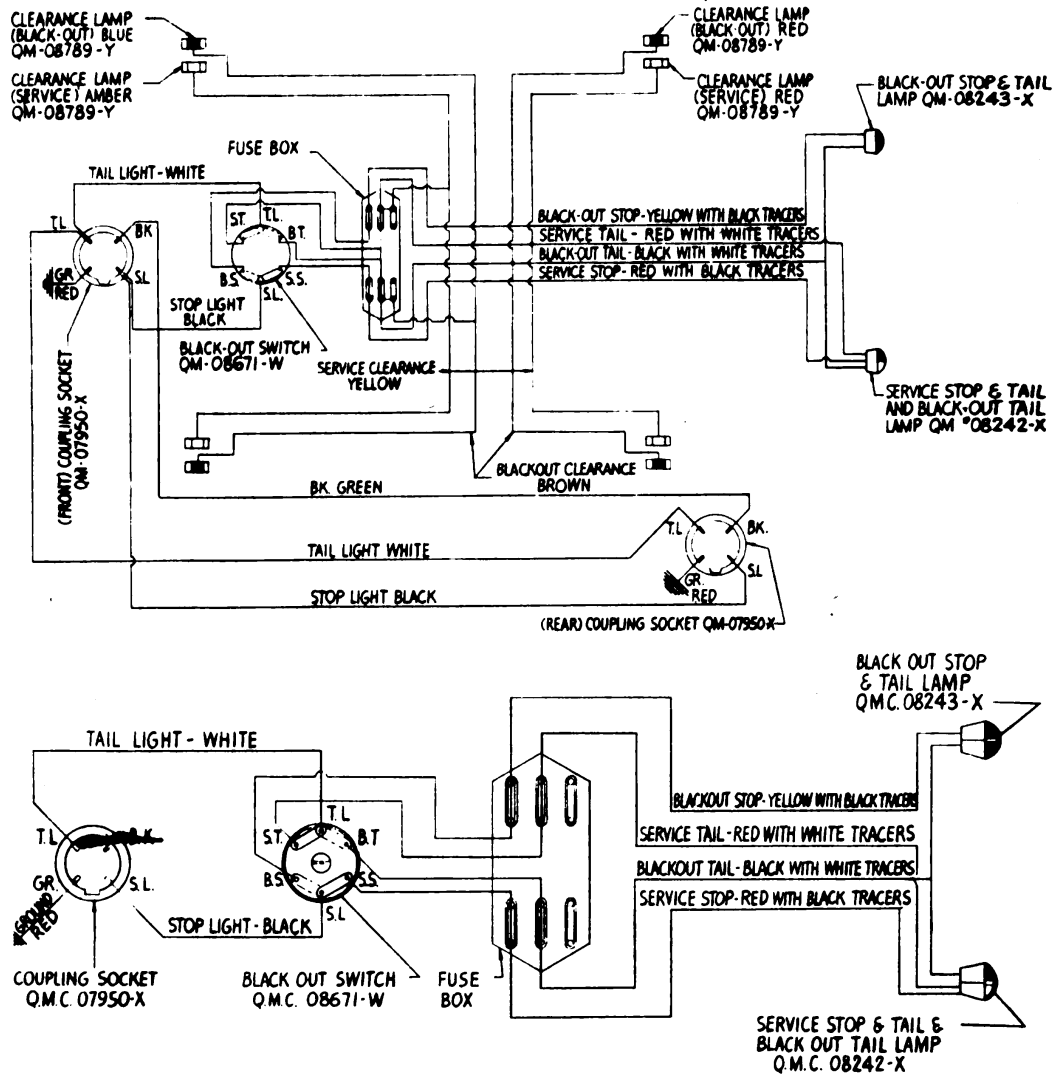

FIGURE 51. WIRING DIAGRAM
1. **WIRING.**—The general electrical circuit diagrams shown in (Figure 51) illustrate all of the electrical circuits used on this vehicle. With these diagrams, the various circuits can be traced and wiring replacement made. All electrical units are shown in their relative position. Each wire in the electrical system is of a distinctive color. A key to these colors will be found on the circuit diagrams (Figure 51).